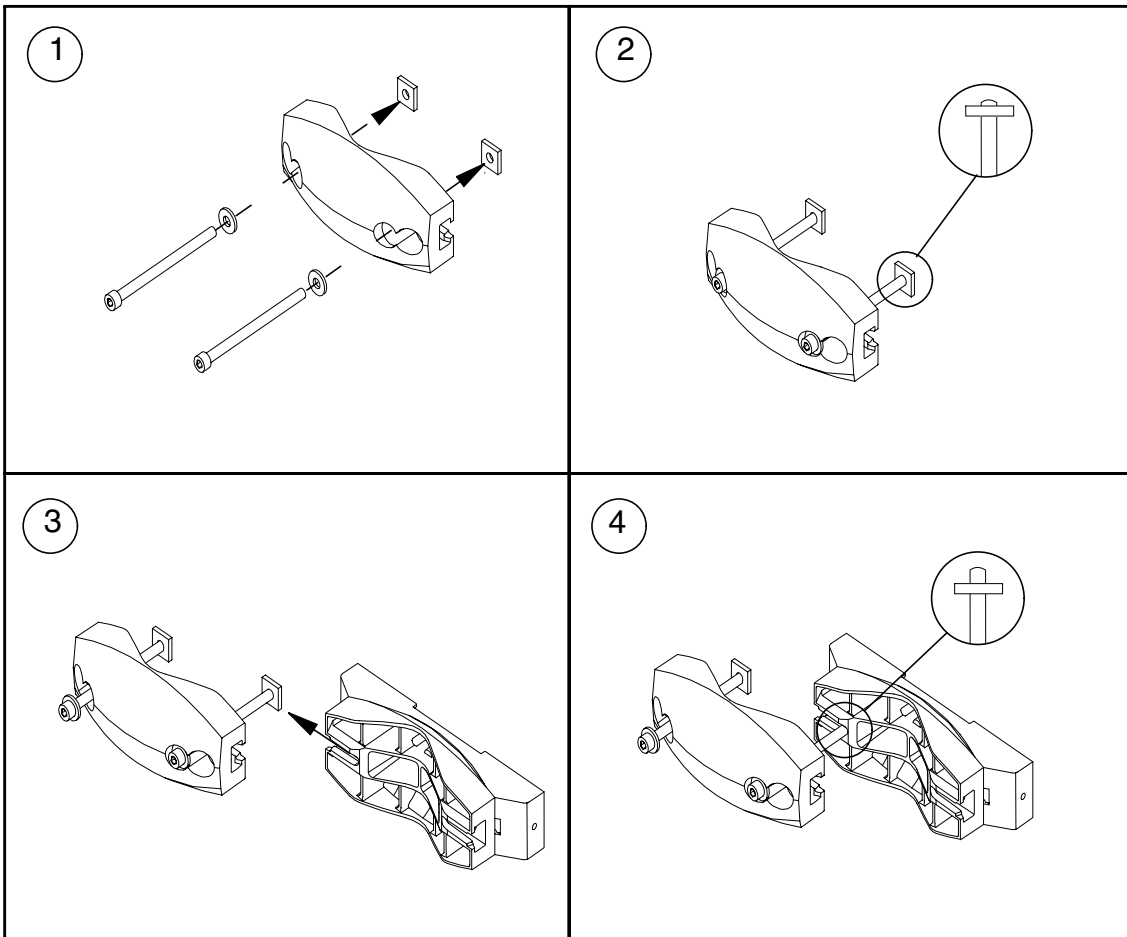

Figure 9. Pre-assembling the pole brackets
If the diameter of the installation pole is 60 to 90 mm (2.4 to 3.5 in), use the inner bolt holes. If the diameter of the installation pole is 90 to 120 mm (3.5 to 4.7 in), use the outer holes. Figure 9 shows the inner bolt holes being used.
1. Insert the M8 assembly bolts and washers into the bolt holes in the back blocks. See [1] in Figure 9.
2. Attach the square nuts on the ends of the bolts. Screw on the nuts just enough to secure them on the ends of the bolts. See [2] in Figure 9.
3. Slide one of the bolts with the square nut into the slot at the side of the front block. See [3] in Figure 9.
4. Screw the bolt in further, enough to prevent the bolt and the square nut from sliding out from the front block. See [4] in Figure 9.